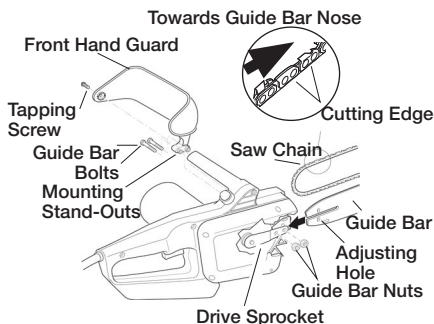

Figure 4 - Assembling Guide Bar, Chain, and Hand Guard
1. Before adjusting chain, make sure guide bar nuts are only finger tight (see Figure 4). Also make sure adjusting block is in oval adjusting hole on guide bar (see Figures 4 and 5).